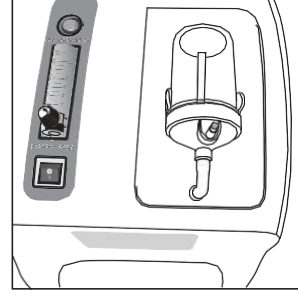

Figure 4
② If you are using a humidifier, follow the steps below:
B. Lock the humidifier into the sink part, then connect oxygen outlet port to the top of the humidifier, as shown in the Figure 4.